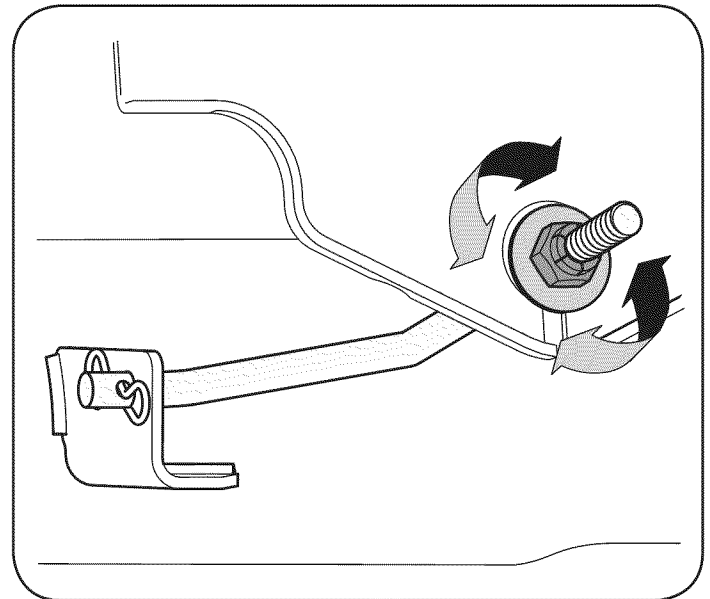

Figure 14
3. Locate the flange lock nut on the front side of the stabilizer bracket. See Fig. 14.